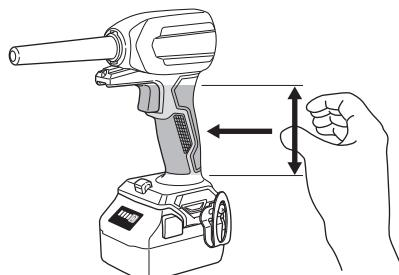

Fig. 1
2. Make sure to securely hold the tool during operation. Failure to do so can result in accidents or injuries (Fig. 1).